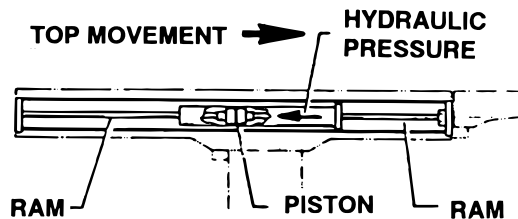

Figure 1-12. Slide Function Cylinder
3. Slide Function Cylinder - This cylinder is also a double action cylinder. It differs from the Kidney Lift and Trendelenburg cylinders in that the piston is connected to rams which exit from each end of the cylinder tube. The ends of the rams connect to each end of the table top. The cylinder tube is connected to the main side frame. When hydraulic fluid is pumped into one side of the cylinder the entire table top assembly will slide longitudinally. See figure 1-12.